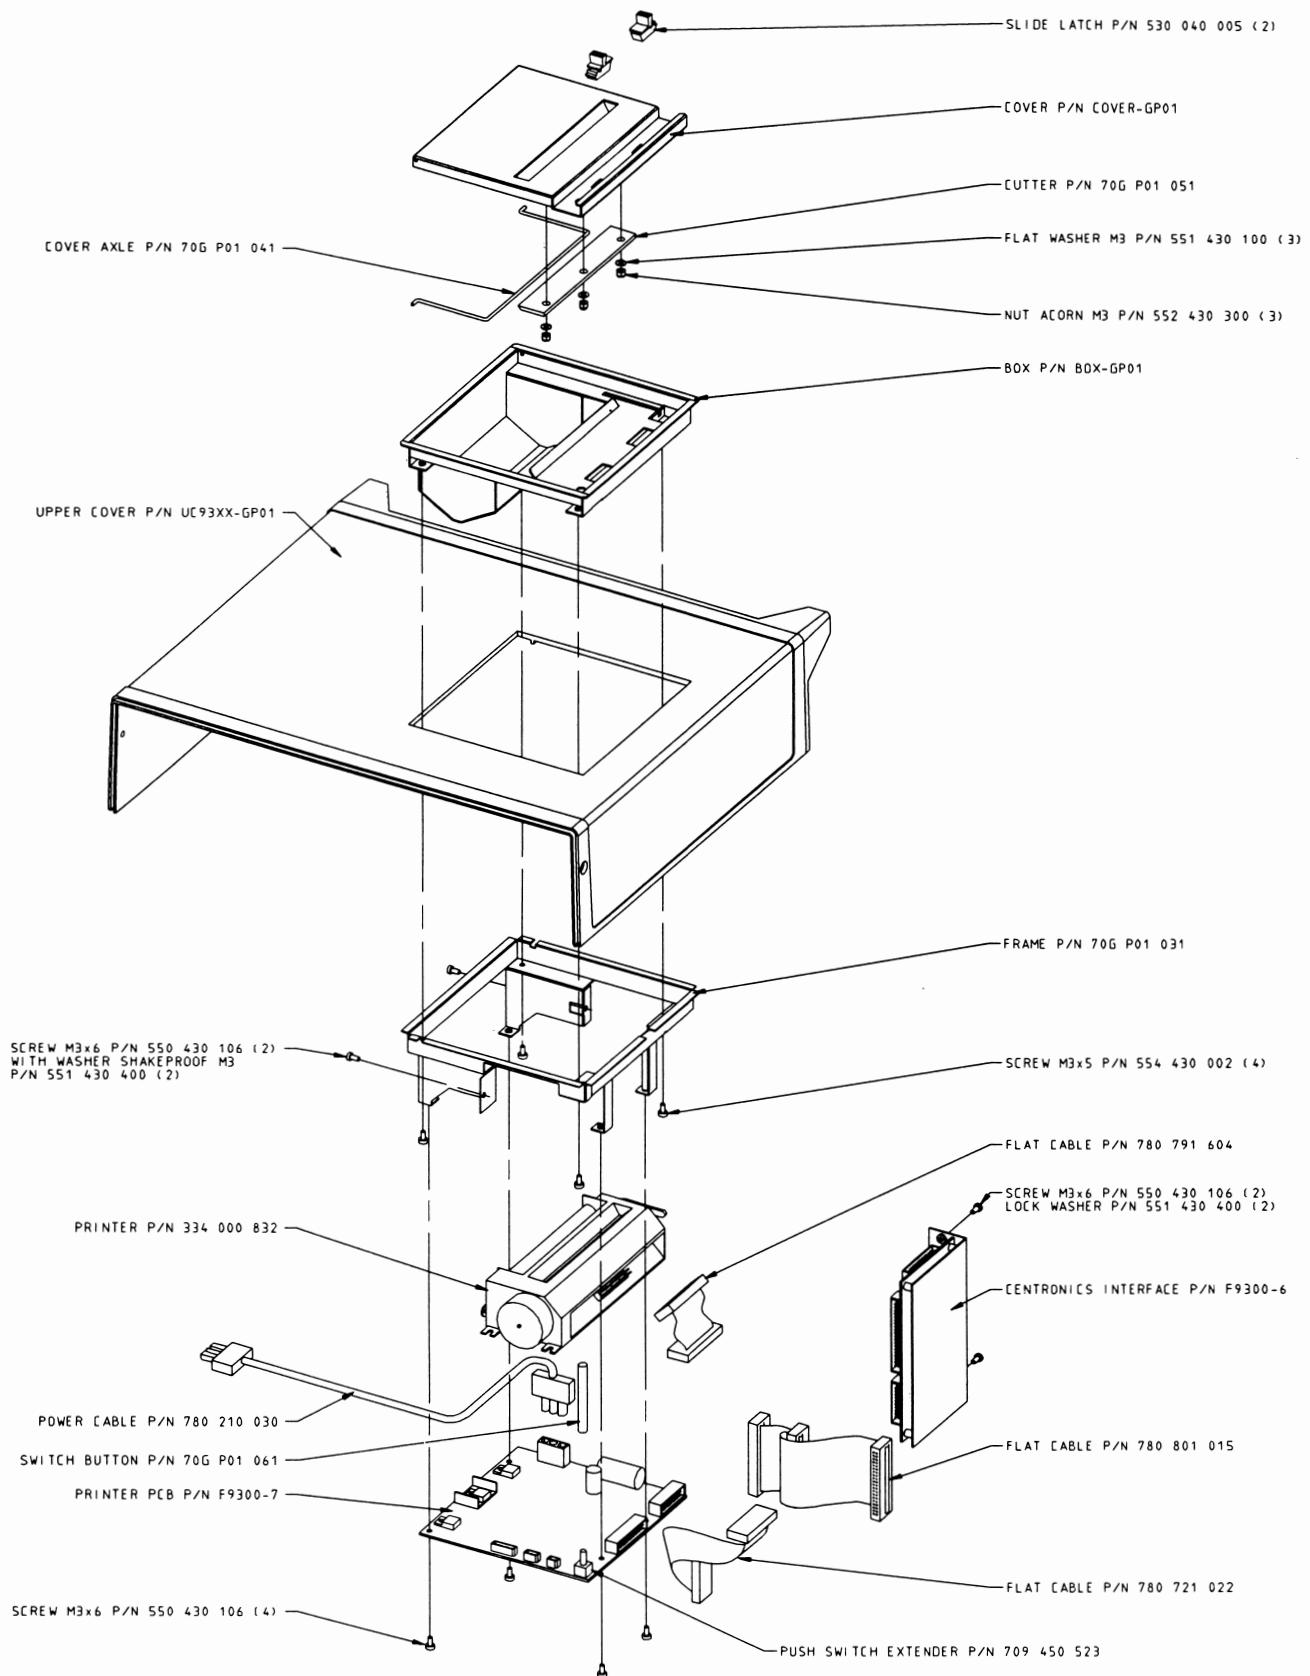

FIGURE 7.6: 9320-GP01 ASSEMBLY: PRINTER OPTION
- Disconnect the power cable (780210030) from the 93XX-PS1715 power supply (see figure 7.6).
- Disconnect the flat ribbon cable (780791604) from the F9300-7 controller (see figure 7.6).